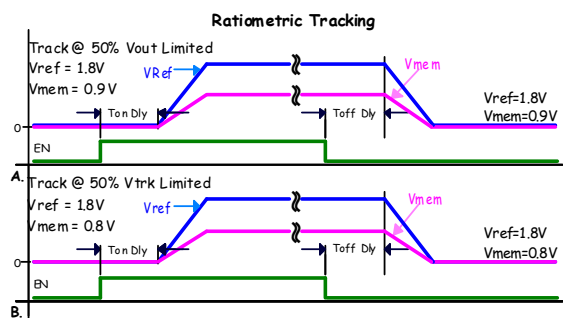

FIGURE 18. RATIOMETRIC TRACKING
1. Track at 50% V_{OUT} limited. Member rail tracks the reference rail and stops when the member reaches 50% of the target voltage, Figure 18\(A\).
2. Track at 50% V_{TRK} limited. Member rail tracks the reference at the instantaneous voltage value applied to the VTRK pin until the member rail reaches 50% of the reference rail voltage, or if the member is configured to less than 50% of the reference the member will achieve its configured target, Figure 18\(B\).